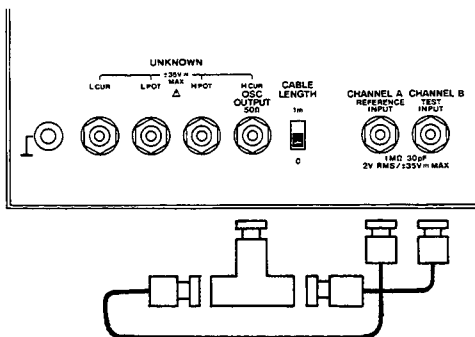

Figure 4-6. Amplitude/Phase (0dB) Accuracy Test Setup
- a. Interconnect OSC OUTPUT (H_{CUR}), CHANNEL A and CHANNEL B as shown in Figure 4-6.